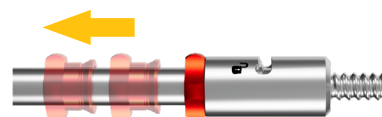

Figure 78
1. Completely unscrew the colored safety wheel (**Figure 78**)